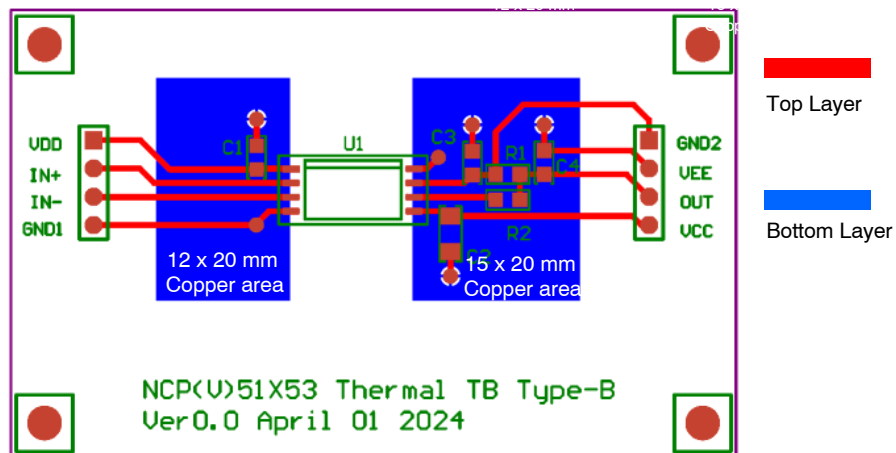

Figure 5. Reference Layout for the Type-B
- 8. As specified for a reference layout shown in Figure 5. The DUT is mounted on a 65 x 40 x 1.6 mm FR4 substrate with an additional heat spreading copper of 240 mm²/300 mm² (Primary/Secondary). The copper thickness is 1oz and test conditions is under natural convection or zero air flow.